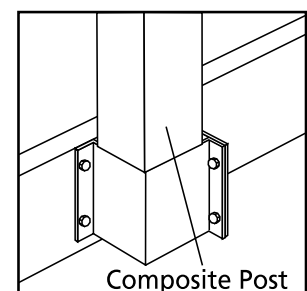

Figure 4
7. Insert post into bracket until bottom of post contacts stop tab on bottom of bracket (Fig. 4).